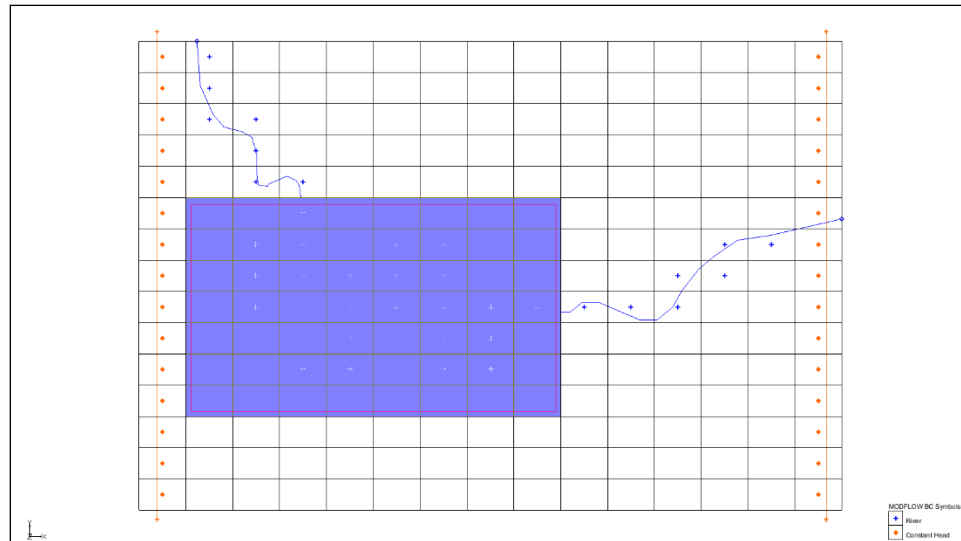

Figure 3 The selected cells for the child grid
6. Using the **Select Cells**  tool, drag a box to select all cells within the red rectangle. Ensure that all the cells touched by the rectangle are included. The selected region should be eight cells wide by seven cells high (Figure 3).